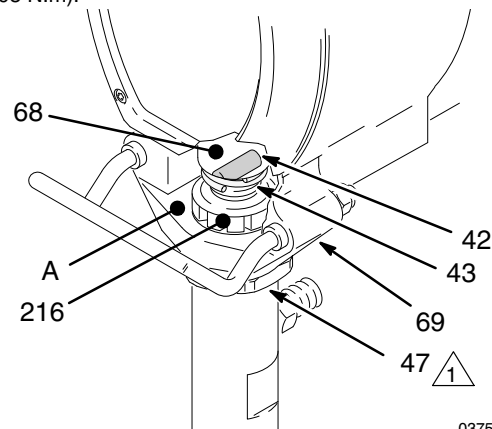

Fig. 29
5. Tighten the packing nut (216) just enough to stop leakage, but no tighter. Fill the wet-cup/packing nut 1/3 full with Graco TSL. See Fig. 29.